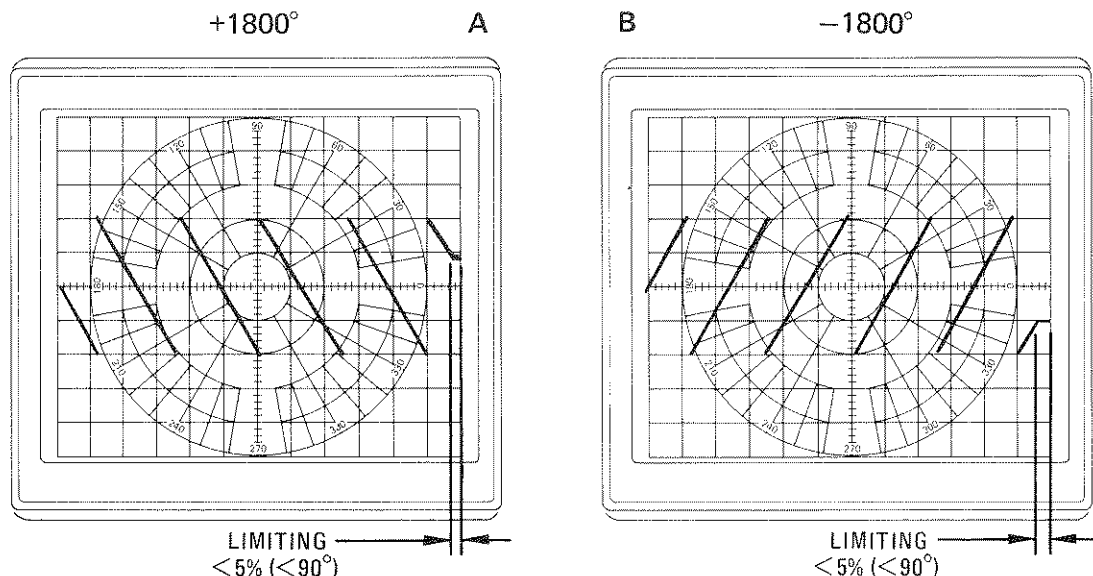

Figure A2-23. Phase Trace with Maximum Electrical Length Added
- o. With ELECTRICAL LENGTH offset pushbuttons, put in +1800 degrees of electrical length. (The electrical length readout displays +180.) Verify that five transistions are displayed and that the linear phase display limits over approximately the last 5% of the trace. (See Figure A2-23, Photo A.)
- q. With ELECTRICAL LENGTH offset pushbuttons, put in -1800 degrees of electrical length. (The electrical length readout displays -180.) Verify that five transistions are displayed and that the linear phase display limits over approximately the last 5% of the trace. (See Figure A2-23, photo B.)